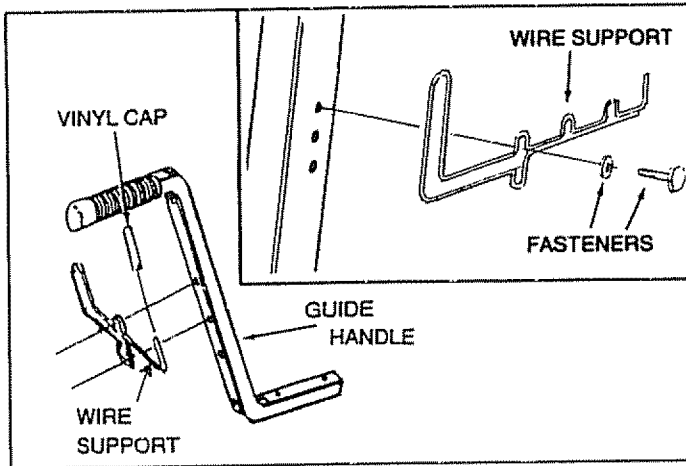

FIG. 3
- Attach wire support to guide handle with #10 self-drilling screws and #10 flat washers (Fig. 3). The hose minder should be to the left and gun holder to the right. Be sure loop of support is pointing upward. Place vinyl cap onto gun holder.